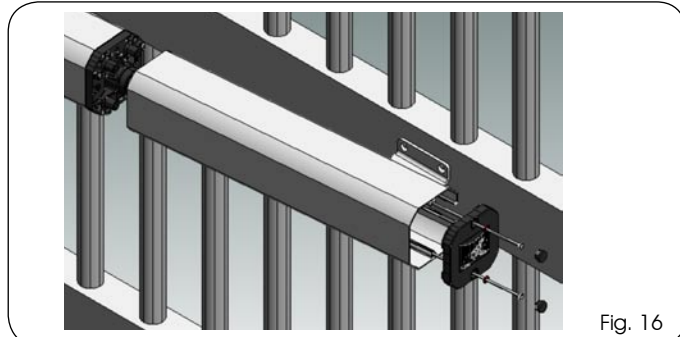

Fig. 16
16. Install the metallic protection cover as shown in Fig. 16.